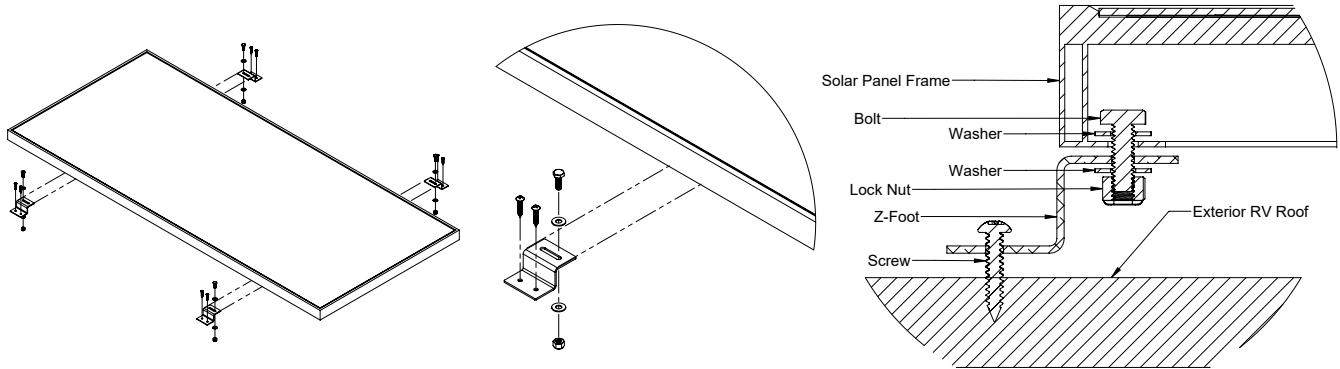

FIGURE 4-A: SOLAR PANEL INSTALLATION DETAILS
1. Assemble 4 mounting feet onto each of the solar panels frame using the 1/4" bolts, nuts and washers. This assembly is easily completed on the ground before the panels are brought up to the RV roof (See Figure 4-A).